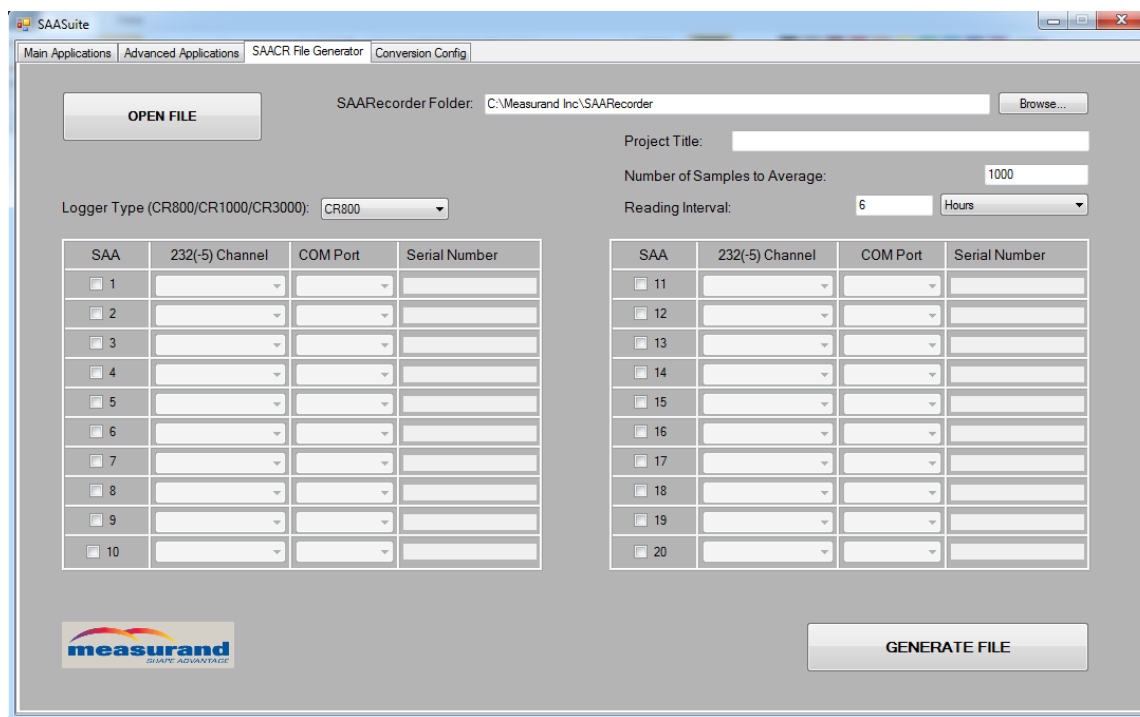

Figure 6.6: SAACR File Generator utility.
Program files for collecting SAA data using the CR1000 can be created using the Measurand SAACR File Generator utility found in SAA Suite (Figure 6.6).
- 4) SAA Table: For each SAA, the following information must be included, (as seen in Figure 6.6):